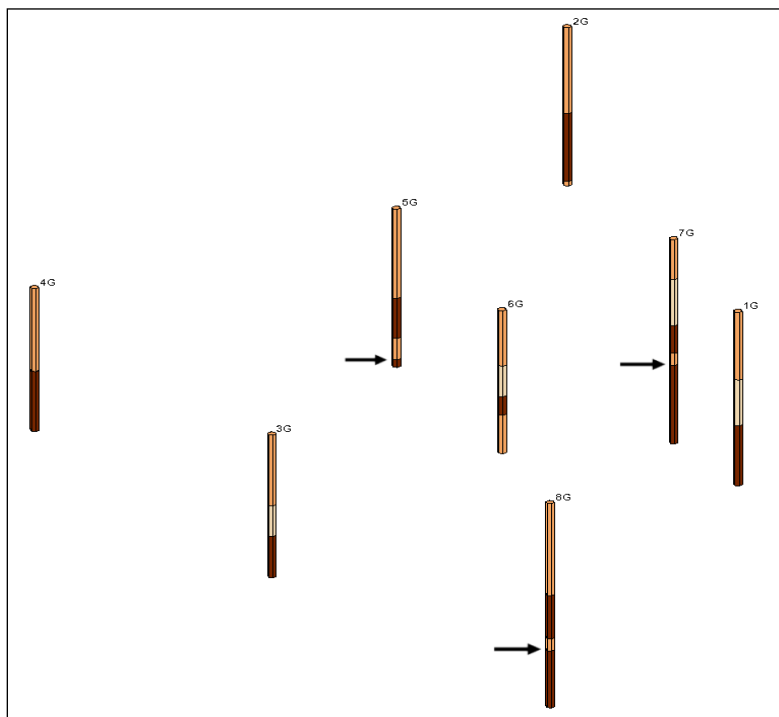

Figure 4 Contacts for Horizon 1
Now it is necessary to select a group of borehole contacts and set the horizon IDs. The first horizon to be defined will be the top of the lower silty-clay layer as indicated by arrows in Figure 4.
1. Using the **Select Contacts**  tool, select the top of the lower silty sand material on hole 8G as shown in Figure 4.